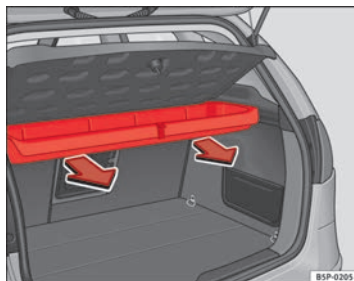

Fig. 124 Removing storage compartment
- Pull outwards until the compartment is freed from the pivot point ⇒ Fig. 124.